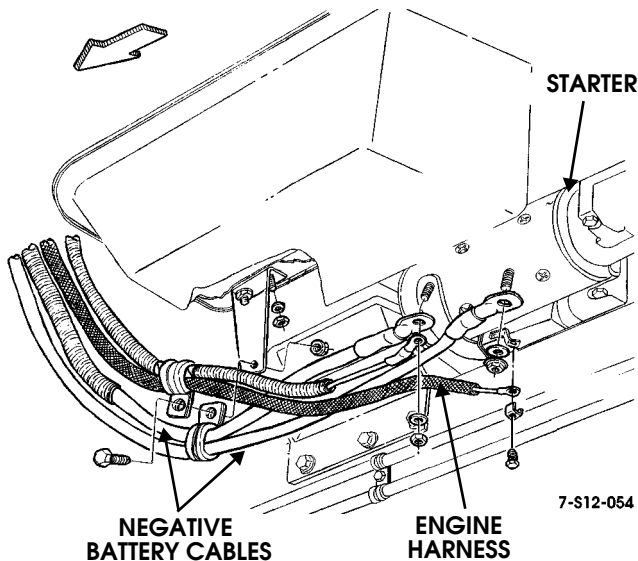

Figure 12-6: Negative Cable to Cylinder Block Attachment
4. Remove nut, lockwasher, clamp, and stud securing engine harness and negative cable to starter (Figure 12-6).